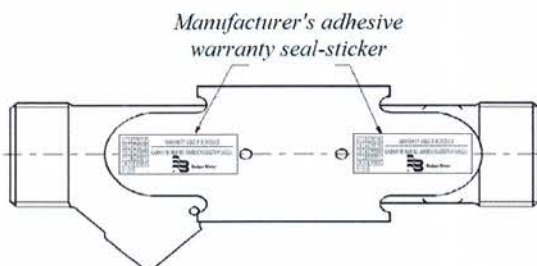
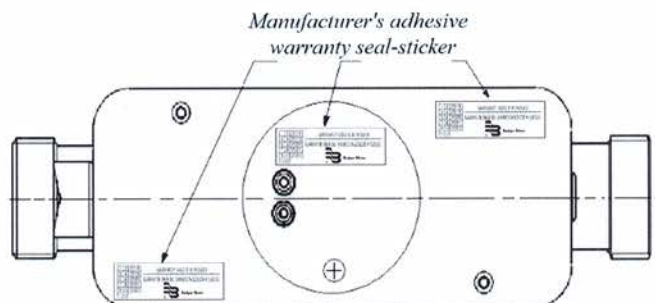

Fig. 7. Sealing of flow sensor
Fig. 8. Sealing of flow sensor
- the manufacturer's adhesive warranty seal - sticker on the bolts of the cover (Fig.7, Fig. 8, Fig. 9).